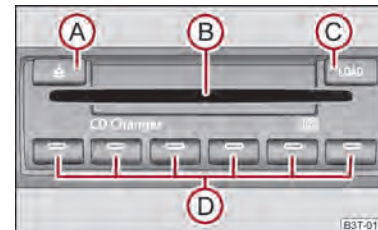

Fig. 136 The CD changer
- Touch the button **C** ⇒ fig. 136 and guide the CD (compact disc) into the CD-case **B**. The CD is automatically loaded onto the lowest free position in the CD changer. The LED in the corresponding button **D** stops flashing.